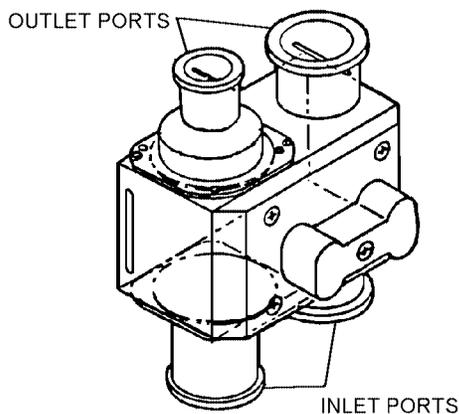

Figure 4-21. H-Manifold
**4-29. H-Manifold.** The H-manifold (figure 4-21) is a four port crossover valve. Receiving connecting hoses from the mask and hoses from the pusher fan subassembly and oxygen delivery subassembly (variants (V)2 - (V)4).